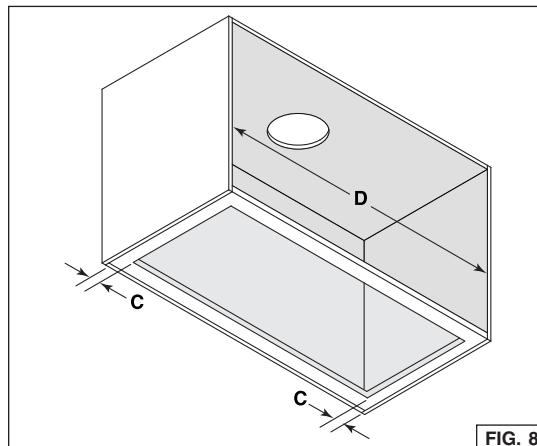

FIG. 8
- Measure the remaining material of the cabinet bottom sides (**C**), (FIG. 8) if it is  $1/4"$  or more, there is no need to use the cabinet brackets. Go to step 8 on page 9.
- When there is less than  $1/4"$  remaining material (**C**), carefully remove those strips. Measure the cabinet inner width (**D**) (FIG. 8). Refer to the table below to see which cabinet bracket edge configuration must be used.